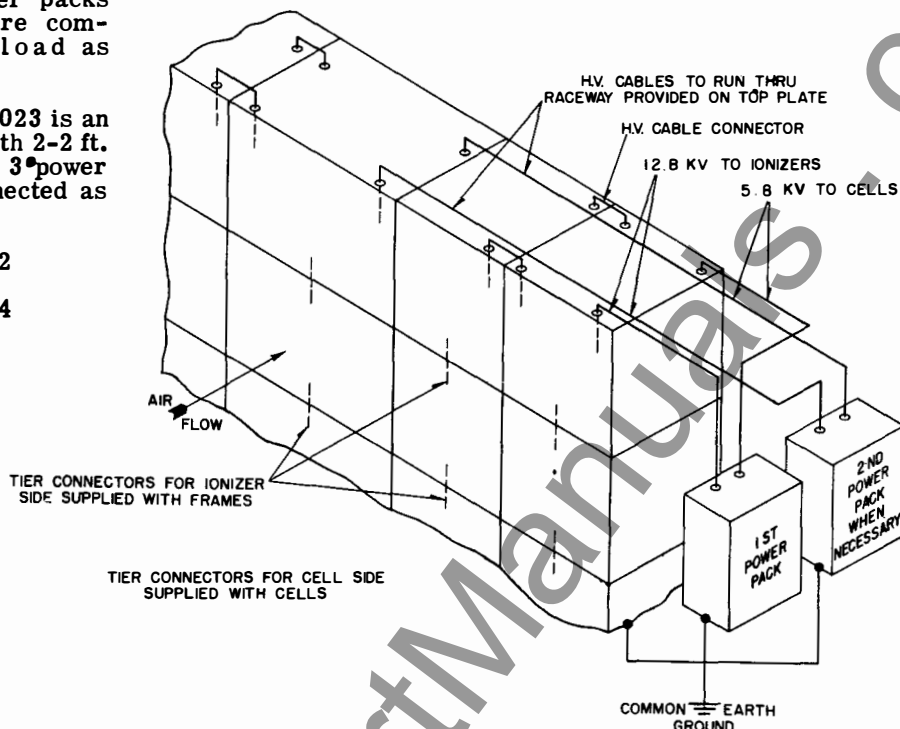

Fig. 31. High Voltage Connections
Two lengths of high voltage cable are required from each power pack. See Fig. 31. These cables should be installed in conduit between the power packs and the ends of the top plate raceways. The cables are then extended through the raceways to the topcells and ionizers. Cable holes are provided at the bottom of the top plate raceways. The raceway on the inlet air side is for the ionizer cables (12.8 KV) and the outlet side raceway is for the cell cables (5.8 KV).
**High Voltage Connections** to the cells and ionizers enter only at the top of each column of frames. All cells and ionizers within columns are interconnected vertically with tier connections. See Fig. 31.
**High Voltage Cable Jumpers** (supplied with top plate hardware) are used to connect columns of cells and ionizers together, where one power pack is sufficient for more than one column. These thread through the top plate raceways. See Figs. 31, 32 & 33.
**Electrical Grounding.** High voltages are fed from the power packs to the cells and ionizers with single conductor cables. A common ground return is required to complete these circuits as well as for safety purposes. See Fig. 31. Connect the power pack cases, the frame structure and the control box to a common ground, using solid copper wire. If